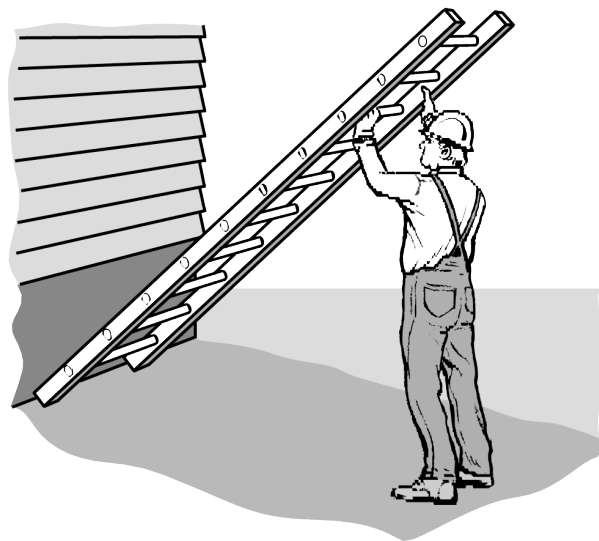

Figure 3 Setting up a ladder alone (BC Industry Training Authority, 2019). CC BY-NC-SA 4.0 (<https://creativecommons.org/licenses/by-nc-sa/4.0/>)
2. Starting at the top of the ladder, lift the end over your head and walk under the ladder toward the wall, moving your hands from rung to rung as you go (Figure 3).